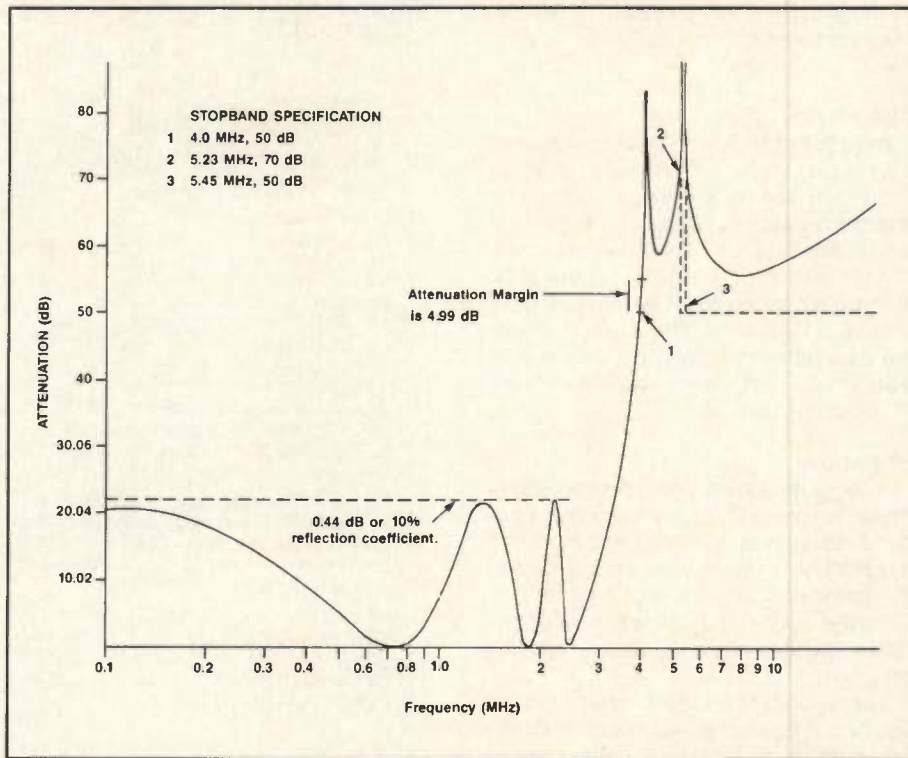

Figure 14. Response of filter in example 4.
After the filter synthesis is completed, it is important to analyze the filter to verify that the synthesis is done correctly. The approach taken by Wyatt (5) is ideal for ladder structures. The result of using the chain matrix to compute the attenuation of the filter designed in example four is shown in Figure 14. The scale used for the passband is different than the one used in the stopband to show the details of the passband.